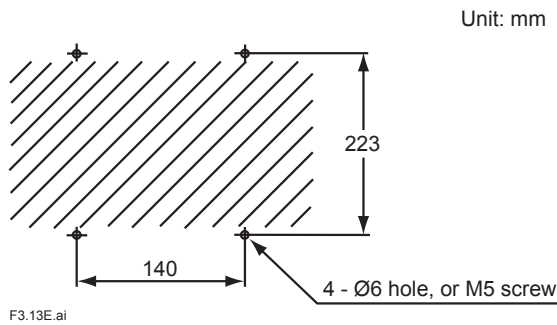

Figure 3.8 **Mounting holes**
(1) Make a hole in the wall as illustrated in Figure 3.8.